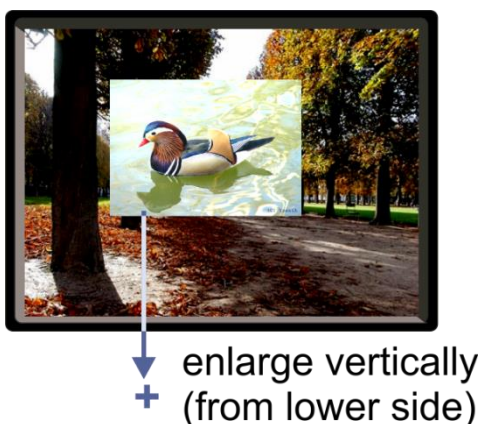

Figure 12: Increasing the Height
4. Select V Height (an OSD slide bar appears) and press + to increase the height, or – to decrease the height, see Figure 12.